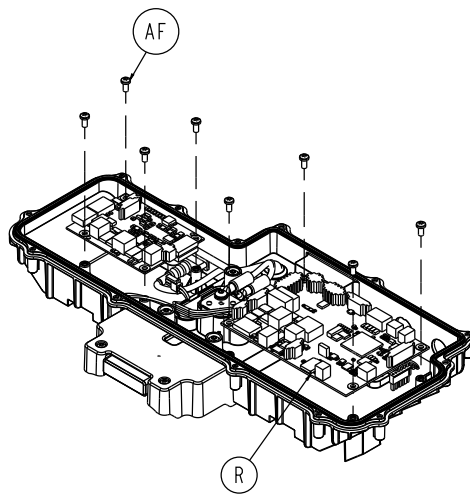

Figure 79 – Remove the FEIB board screws
12. Using a T20 Torx driver, remove the four pan head tapping screws (AF) that secure the cot FEIB board (R) to the bottom FEIB enclosure (Figure 79). Save the screws.